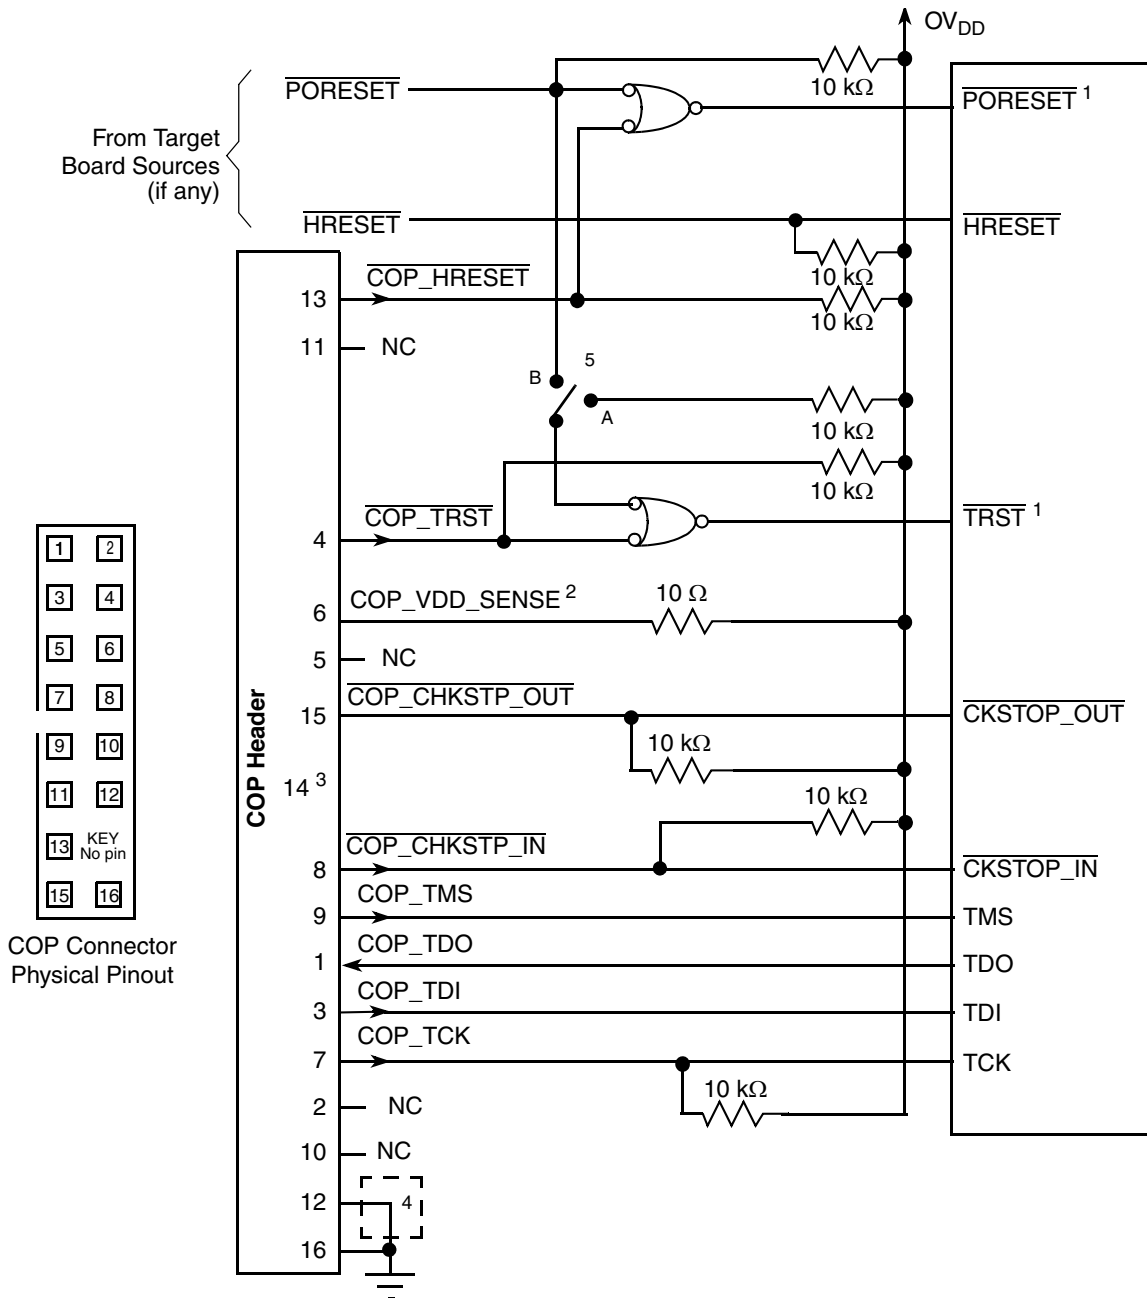

Figure 7. JTAG Interface Connection
Correct operation of the JTAG interface requires configuration of a group of system control pins as demonstrated in Figure 7. Care must be taken to ensure that these pins are maintained at a valid negated state under normal operating conditions as most have asynchronous behavior, and spurious assertion give unpredictable results.
The arrangement shown in Figure 7 allows the COP port to assert $\overline{\text{PORESET}}$ and $\overline{\text{TRST}}$ independently, while ensuring that the target can drive $\overline{\text{PORESET}}$ as well.
- $\overline{\text{TRST}}$ must be tied to $\overline{\text{PORESET}}$ through a 0 k Ω isolation resistor so that it is asserted when the system reset signal ($\overline{\text{PORESET}}$) is asserted, ensuring that the JTAG scan chain is initialized during the power-on reset flow. Freescale recommends that the COP header be designed into the system as shown in Figure 7. If this is not possible, the isolation resistor allows future access to $\overline{\text{TRST}}$ in case a JTAG interface may need to be wired onto the system in future debug situations.